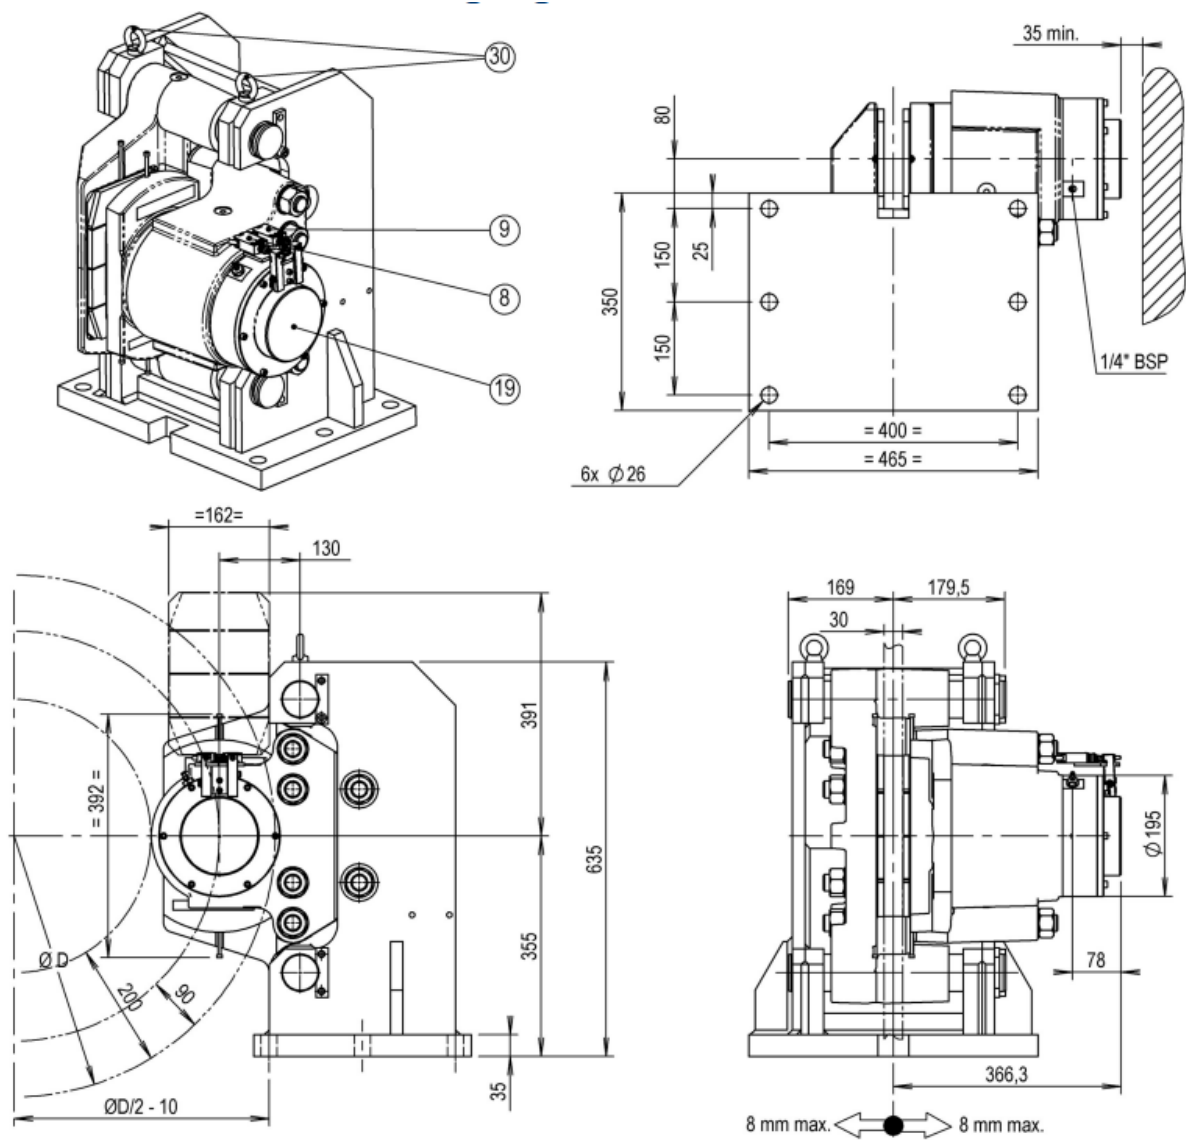
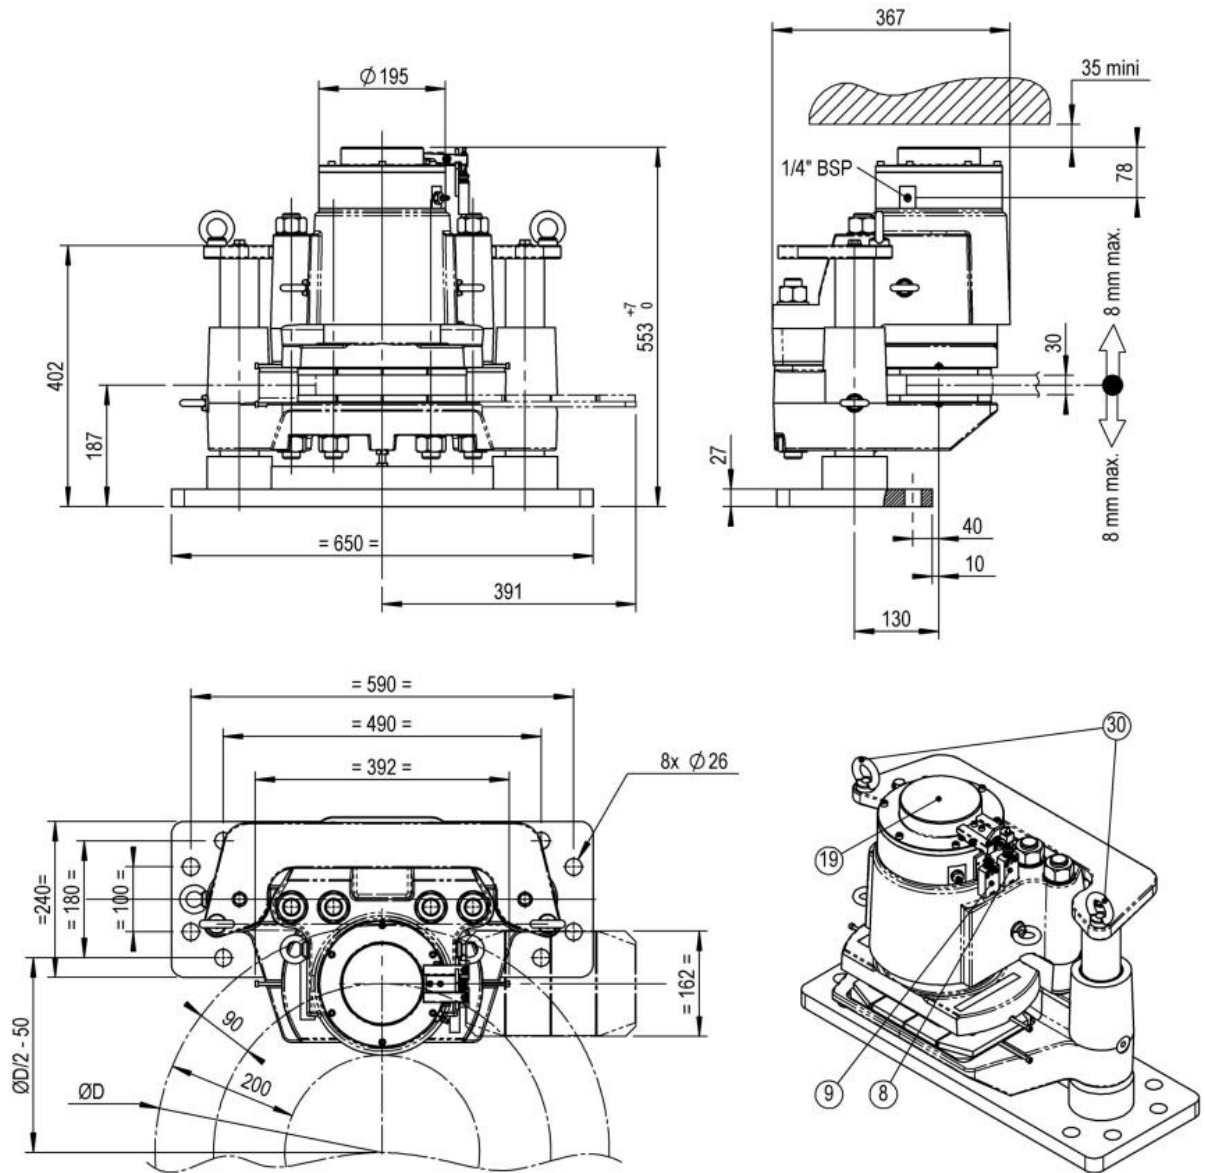

Fig. 2.1
Fig. 2.2
Put the assembly in position on the disc, raising it with lifting eyes Fig 2.1 and Fig. 2.2.
1. Brake HS 145 FHM-270 R-V Check the disc position 187 +/-8 mm Fig. 2.2 use the balancing screw (16mm on flats) below the caliper and that the disc is parallel // 0,3 to the brake pad. Check that the support balance in relation to the disc is less than 0,2mm. Check that the disc is fully between the pads. Read before also chapter 5.1.